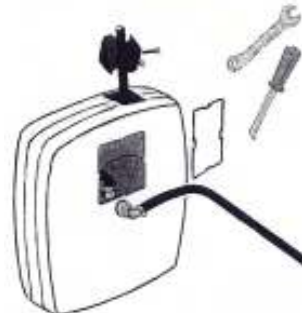

Fig 5
- 3) Remove the plastic cover. (Refer Fig 5)
- 4) Pull the hose out of the reel. Using a suitable size spanner, unscrew and remove the hose from the nipple. The nipple can be accessed through the window on the side of the reel. (Refer Fig 5)
6) Feed the new hose through the reel outlet and attach it to the nipple located inside the drum assembly. Access is through the window on the side of the reel. (Refer Fig 5)